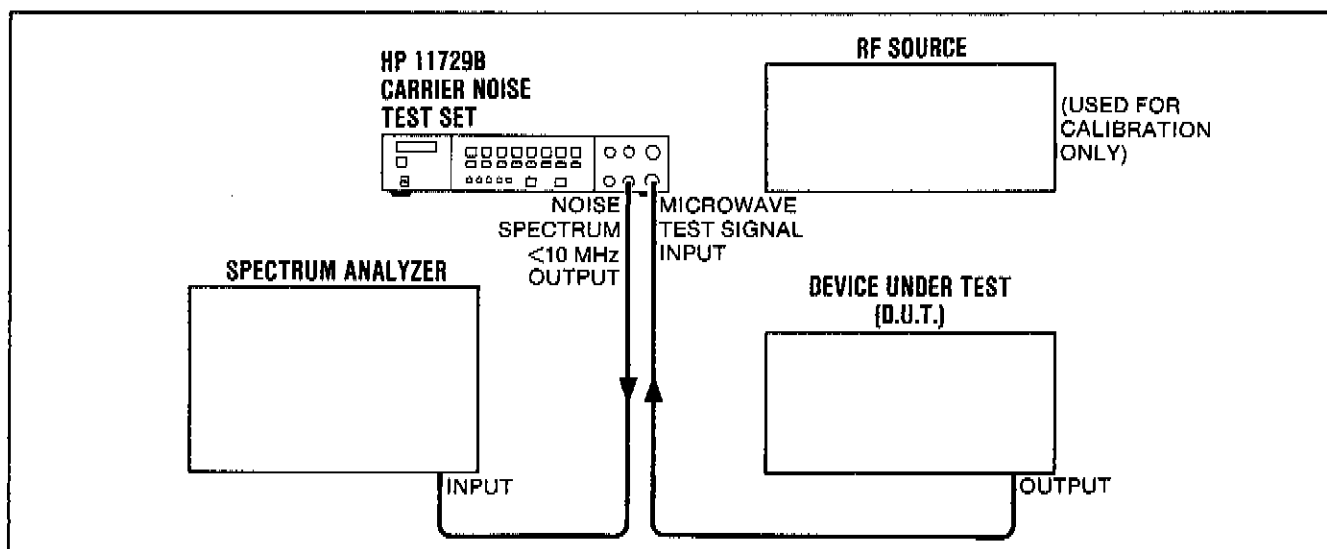

Figure 3-9. Interconnections to the Carrier Noise Test Set When Making an AM Noise Measurement
1. Figure 3-9 shows interconnections to the Carrier Noise Test Set when making an AM noise measurement.